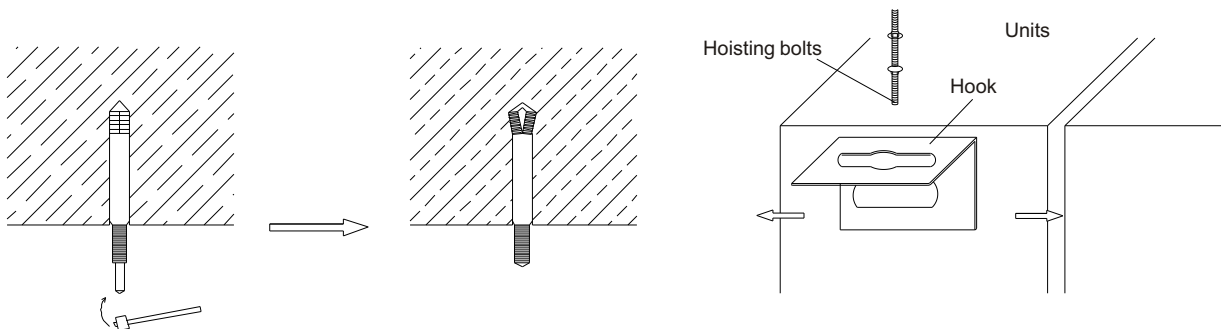

Figure 8
c. The indoor unit is mounted on the ceiling, See Figure 8.